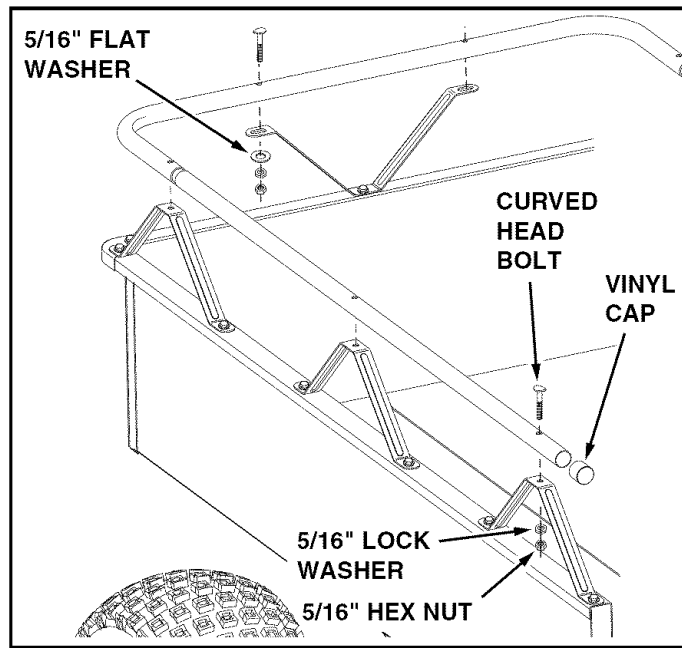

FIGURE 15
30. Insert the ends of the side rails into the front rail so that the holes align. See figure 15.
31. Assemble the rails to the side rail braces using eight curved head bolts, 5/16" lock washers and 5/16" hex nuts. **Tighten all** loose nuts and bolts. See figure 15.
32. Assemble the rails to the front rail braces using two curved head bolts, 5/16" lock washers, 5/16" flat washers and 5/16" hex nuts. **Tighten all** loose nuts and bolts. See figure 15.
33. Assemble two vinyl caps onto the ends of the rails. See figure 15.